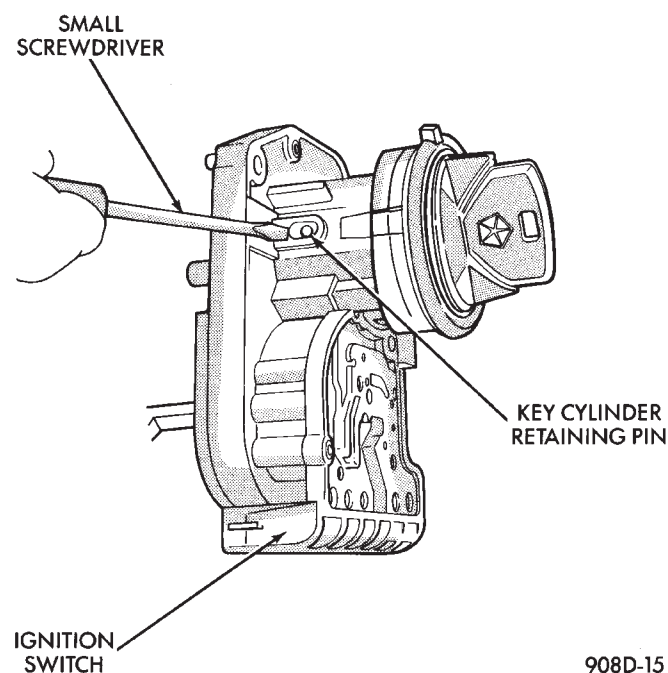

Fig. 3 Lock Cylinder with Retaining Pin Type I
- (7) To remove the lock cylinder with retaining pin from the ignition switch:
- (a) Insert key in the lock cylinder. Turn the key to the LOCK position. Using a small screwdriver, depress the lock cylinder retaining pin until it is flush with the lock cylinder surface (Fig. 3).